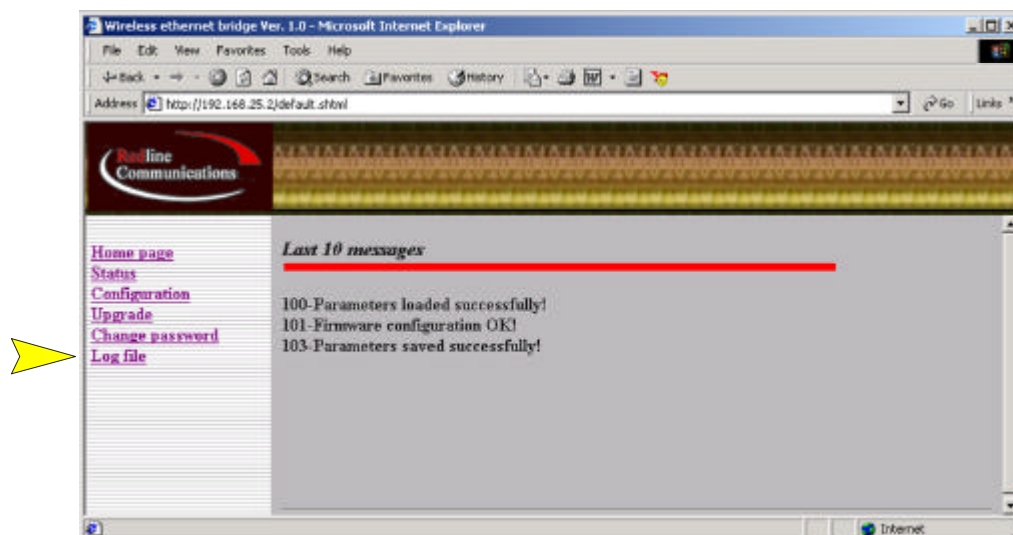

Figure 19 Log File Screen.
The **Log File** screen, shown in Figure 19, provides a display of the last ten (10) messages recorded by the AN-50 describing either system activity or errors that have occurred.